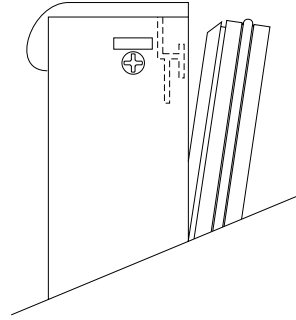

Figure 1
- b. Pull door gasket out of the groove (top edge of door only). Start in the middle and pull outward, moving toward the edge (see Figure 1). This may take some force.